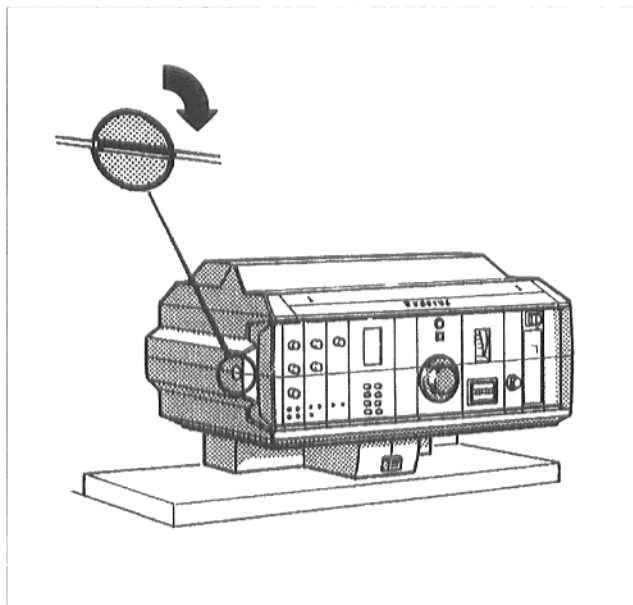

Fig. 23
- Put the screw slot of the transparent cover of the control panel (Fig. 23) into a horizontal position, e.g. with a coin. Remove the transparent cover toward the front.